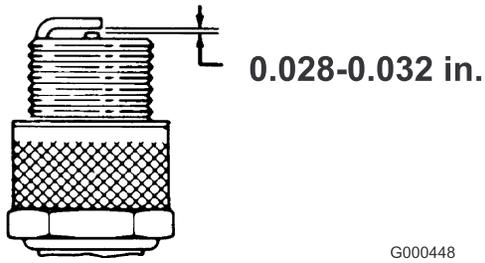

Figure 31
3. Set air gap at 0.028-0.032 inch (Figure 31). Install correctly gapped spark plug and tighten firmly to 17 ft.-lb.